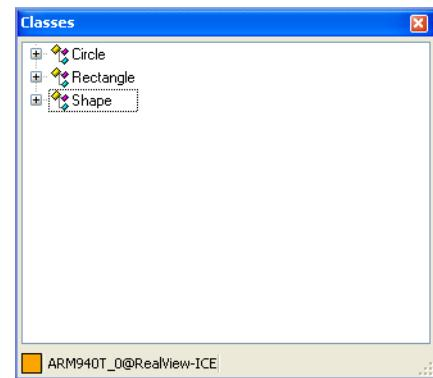

Figure 13-14 Classes view
1. Select **Classes** from the **View** menu to display the Classes view. Figure 13-14 shows an example: